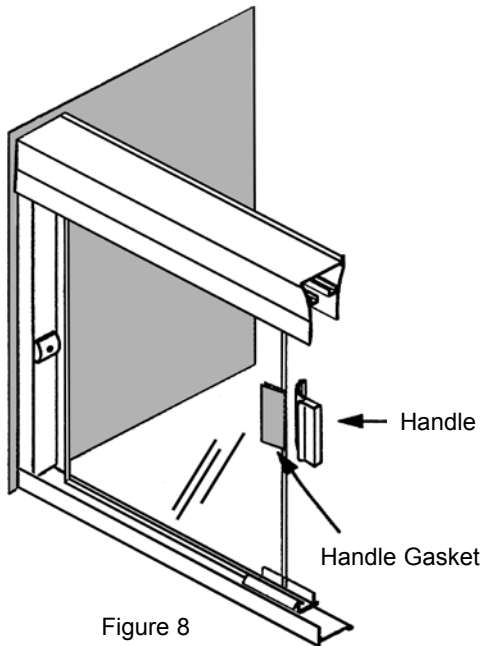

Figure 8
- D. Flex the Handle (#11) slightly as you press it with even pressure onto the Handle Gasket (#14) (See Figure 8).